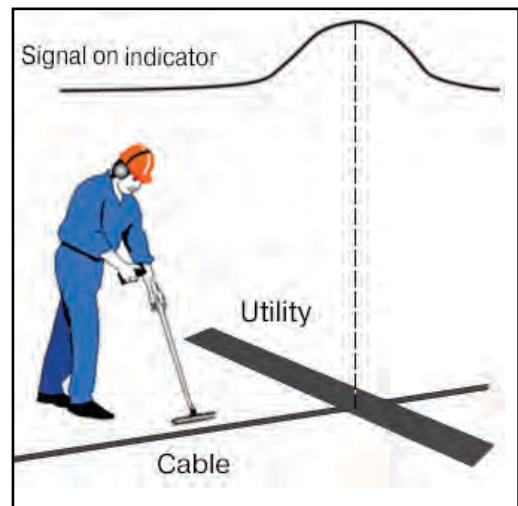

Fig.3.6
3. Position the electromagnetic antenna over the pipeline, parallel to the pipeline route (signal level displayed on the receiver screen will be close to zero) (**fig. 3.6**). Perform route location in accordance with the maximum method. When following the route, the intersection points with utility lines can be identified by the maximum signal.